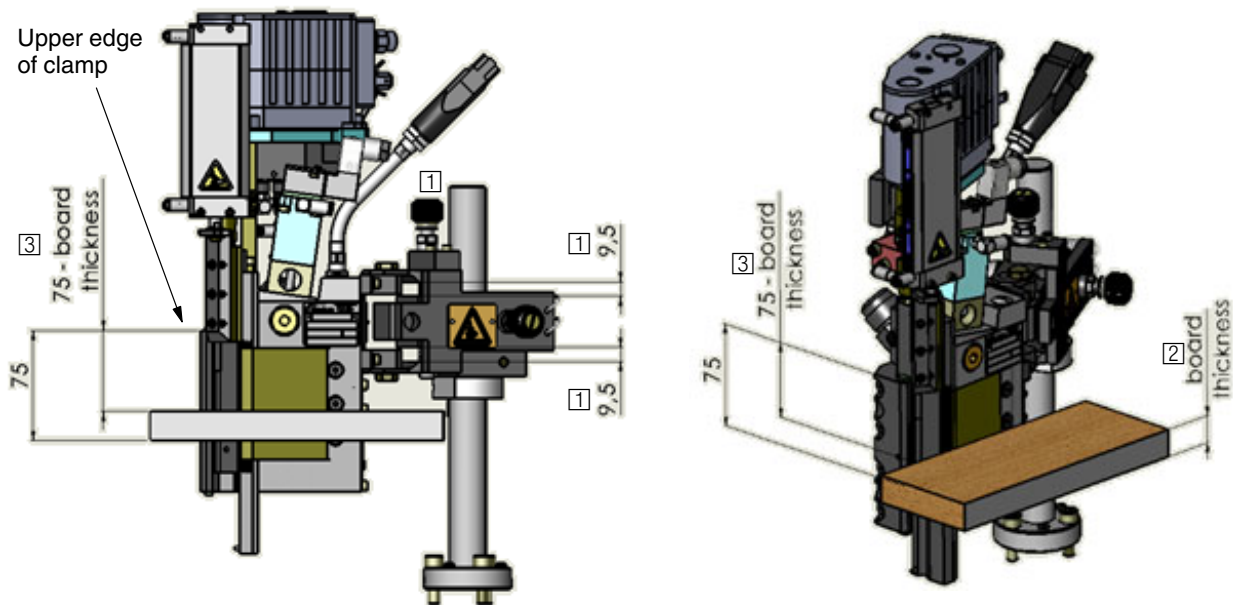

Fig. 13 Example EB060F005
1. Use the height adjuster to center the bracket (9.5 mm/9.5 mm). Refer to Fig. 13: [1]
2. Measure the board thickness (Fig. 13: [2]) and move the board to right in front of the nozzle.
- EB060F005: 75 mm minus board thickness (Fig. 13: [3])